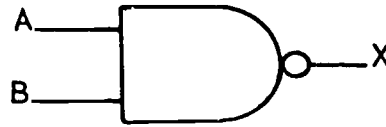

Figure 1-35. Figure for objective 002, exercise 5.
5. Draw the circuit for the gate shown in figure 1-35.